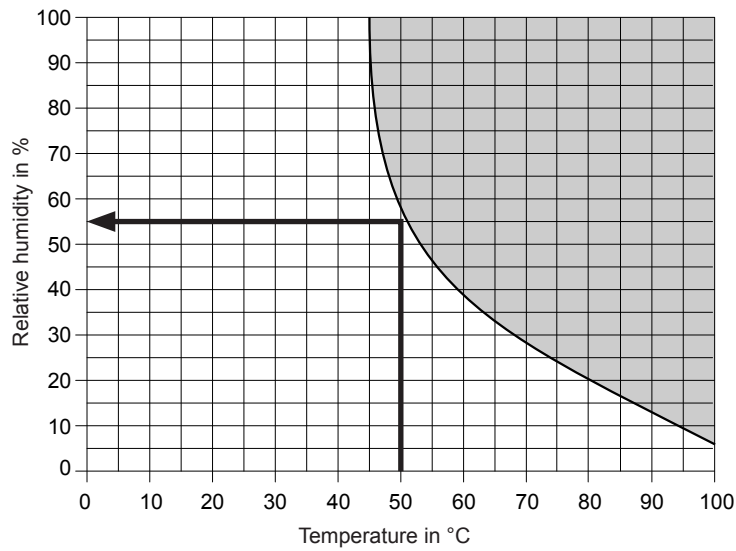
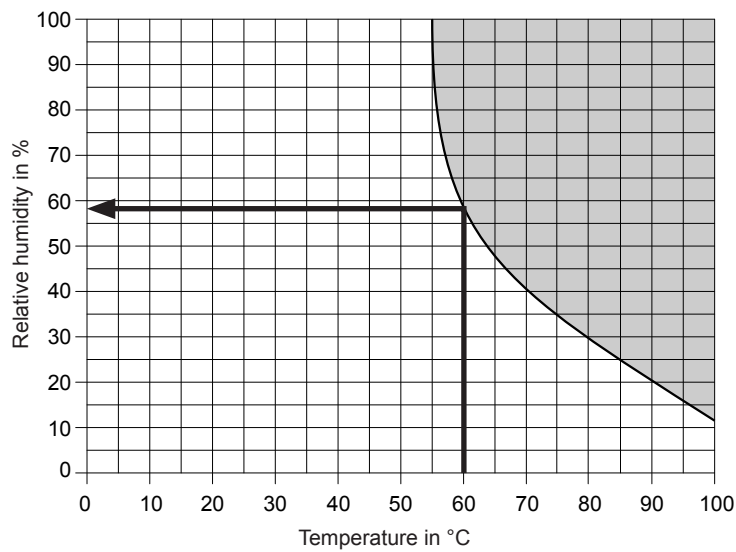

Fig. 5: Enthalpy curve "Standard", correct use according to EN 60335-2
Fig. 6: Enthalpy curve "Tolerant", incorrect use
1) For temperature-humidity control of a bio sauna, only temperature and humidity setpoints on the left and below of the selected enthalpy curve ("Standard" (factory setting, correct use according to EN60335-2) or "Tolerant" (incorrect use)) can be set (see Fig. 5 and Fig. 6). If the humidity or temperature setpoint is modified, the other setpoint is automatically adjusted to the maximum value according to the selected enthalpy curve.